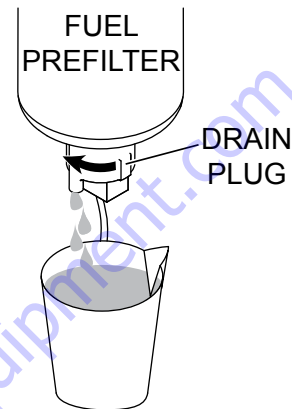

Figure 41. Fuel Water Separator Filter
1. Place a suitable container under the drain socket of the drain plug (Figure 41).